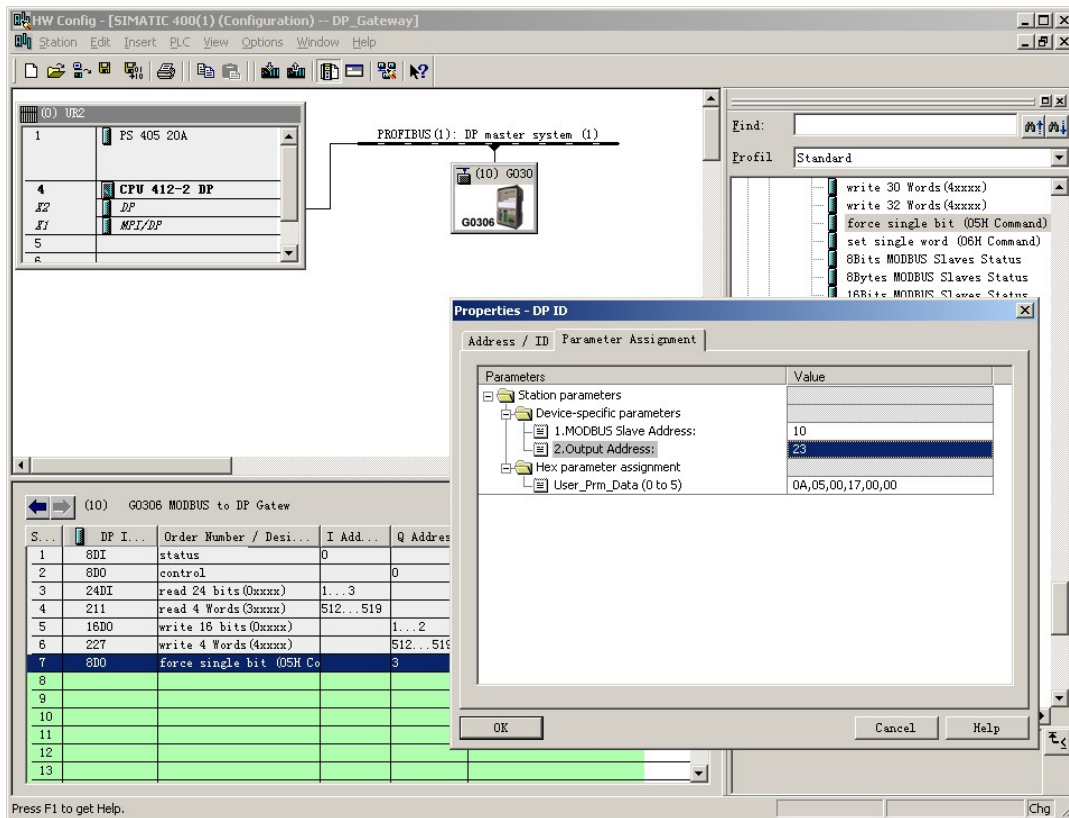

Figure 29 Configure "force single bit (05H Command)" module user parameters
**b) Configure the user parameters of the "force single bit (05H Command)" module, as shown in Figure 29:**
"1.MODBUS Slave Address:" ⇒ Type the Modbus slave address 10, as shown in Figure 29.
"2.Output Address:" ⇒ Type in the output address 00024 of the coil 0xxxx to be written, and set the address to 23 ⇒ "OK", as shown in Figure 29